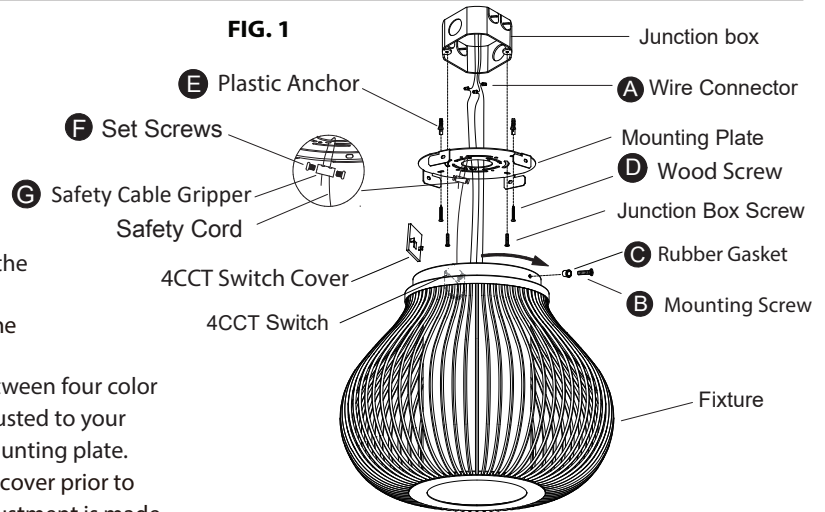

Fig. 2 Wiring
CONNECTING THE WIRES (Fig.1/ Fig. 2)
7. Loosen the set screws(F) on the safety cable gripper(G), thread the safety cords through the gripper (G), mounting plate, and out the other end of the gripper (G) as shown(Fig. 1), then tighten the two set screws(E) and adjust the safety cords length so there is ample room to work with. Connect the driver's input wires to junction box wires as shown in Fig. 2, making sure that all wire connectors (A) are secured. If your outlet box has a green or bare copper ground wire, connect the fixture's ground wire to it. Otherwise, connect the fixture's ground wire directly to the mounting plate using the GND screw provided. After wires are connected, tuck them carefully inside the junction box.